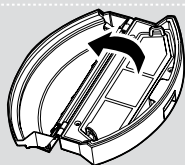

Fig. 19
3. Remove all filter components and clean them separately. The assembly is done in reverse order. **[Fig. 19,20]**